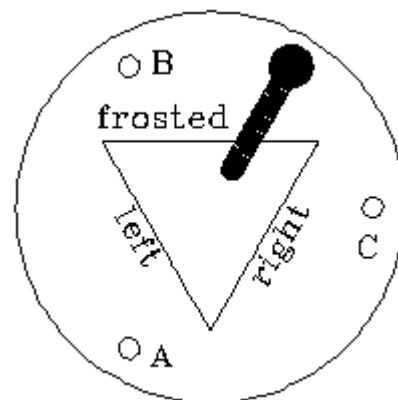

Fig 7. Step D.
(D) Relocate the prism as shown in Fig. 7. The prism faces are perpendicular to the lines joining the leveling screws. Two faces have been labeled "left" and "right" to facilitate discussion. The left face is to your left as you carry out steps E and F. The left face is perpendicular to a line drawn from A to C. The right face is perpendicular to a line drawn from B to C. Note the location of the frosted face nearest the prism clamp.